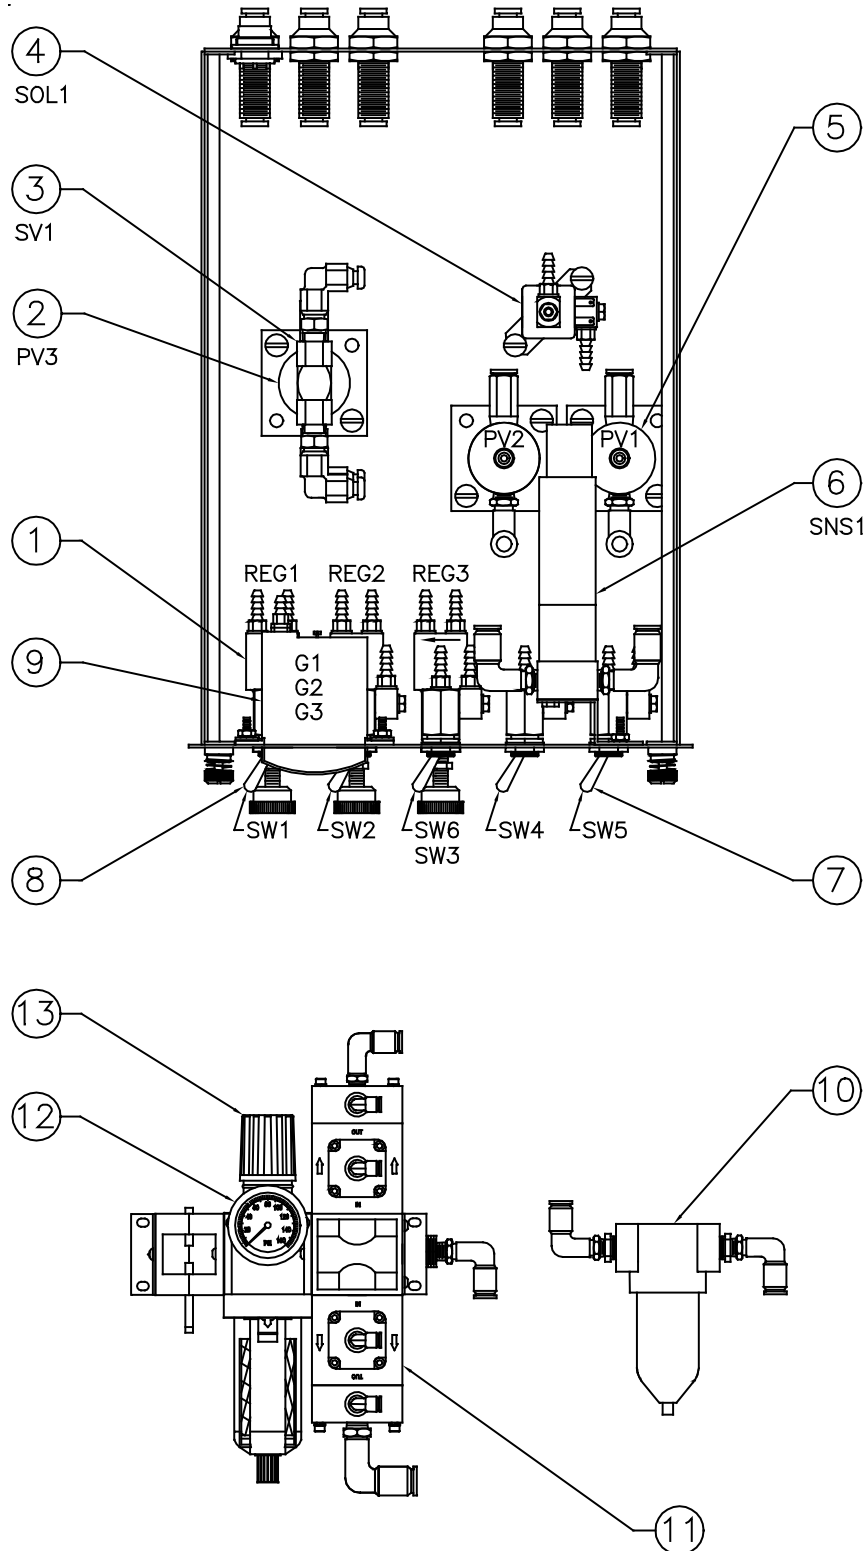

Figure 10: 9040 Aerobell Control Module Parts Diagram
**9040 AEROBELL CONTROL MODULE - PARTS LIST (Figure 10)**